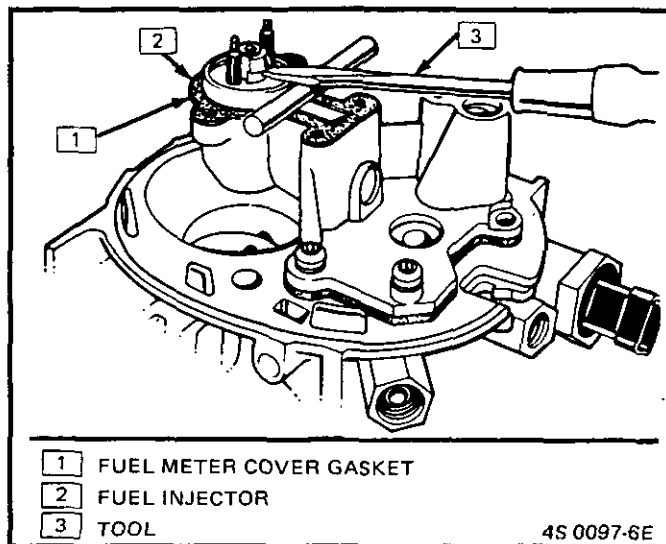

Figure C2-6 - Removing Injector
4. With the fuel meter cover gasket in place to prevent damage to the casting, use a screwdriver, as shown, to lift the injector carefully until it is free from the fuel meter body (Figure C2-6). Tool J-26868 or equivalent can also be used.